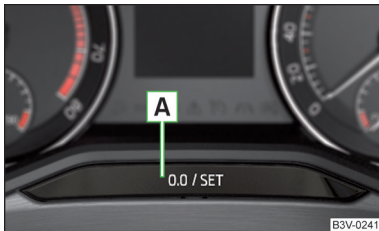

Fig. 35
- Press and hold the button **A** » Fig. 35 until the **Service** is shown in the display.